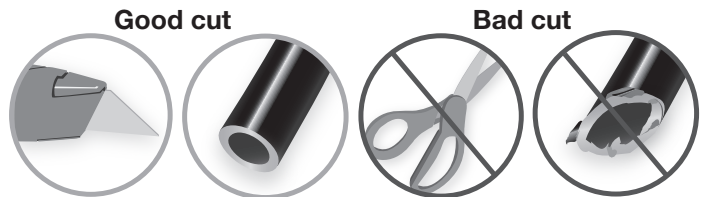

fig. 15
1. Cut the air line in half. Make clean, square cuts with a razor blade or hose cutter (Fig. 15). Do not use scissors or wire cutters.